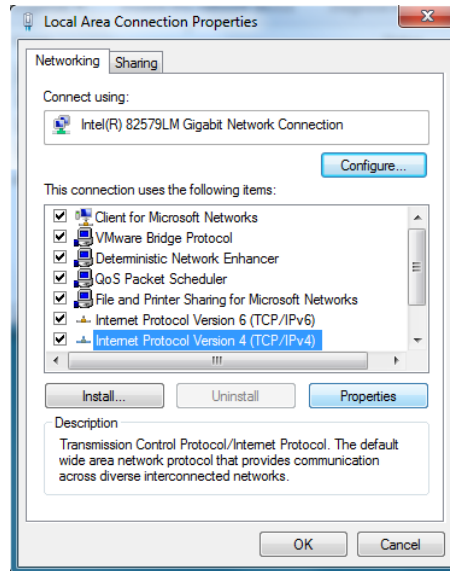

Figure 18 – Local Area Connection Properties
- To view the ZedBoard embedded webpage, open a web browser (such as Firefox) and browse to the ZedBoard IP address <http://192.168.1.10> as the URL. The ZedBoard webpage should open in the browser to display as seen in Figure 18.